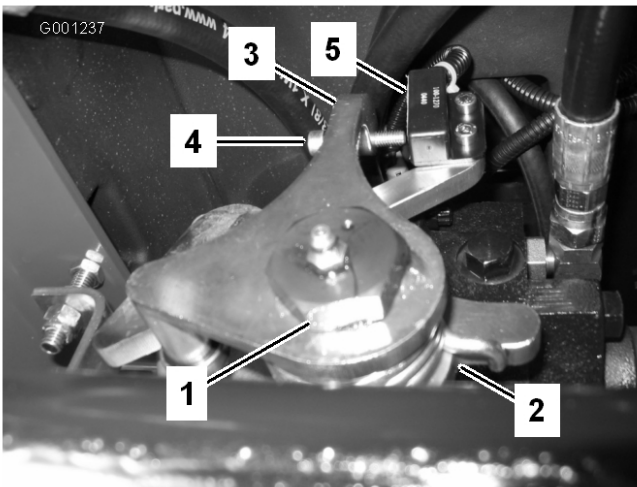

Figure 54
3. Loosen the retaining screw on the opposite side of the traction adjustment cam (Figure 54).
7. Adjust the screw on the neutral return arm (Figure 54) until the gap between the end of the screw and the switch contact is .090–.120 inch.